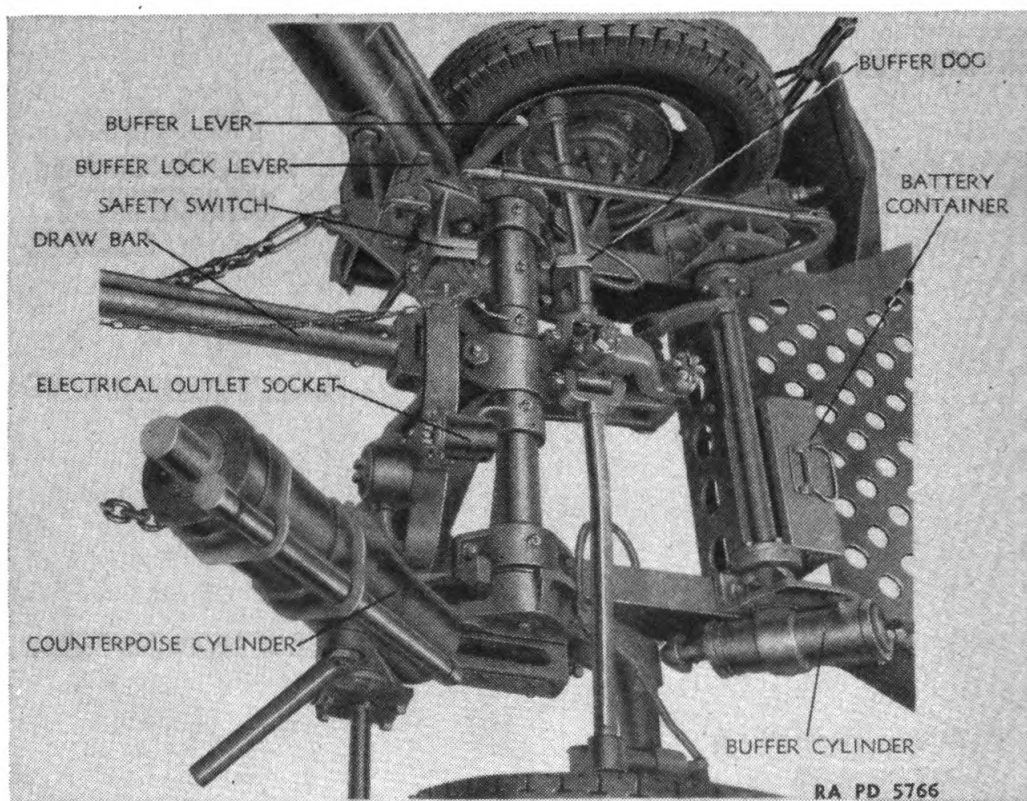

FIGURE 29.—Counterpoise cylinder and buffer mechanism.
**19. Counterpoise cylinders.**—The counterpoise cylinders (fig. 29) are pivoted to the side members of the chassis in front of each of the 4 wheels. The counterpoise rods are pinned in brackets on the rotating axle arms. Together with the buffer assemblies (fig. 29) they provide the spring suspension for road travel. The counterpoise springs also provide the counterbalance for the weight of the carriage, allowing the carriage to be lowered to the ground and lifted therefrom by man power. Long handles on the counterpoise cylinders give added leverage for rotating the axle arms. The ends of the counterpoise rods are so arranged in the axle arms that when forcing the
**20. Buffer mechanism.**—The buffer cylinders (fig. 29) are pivoted to the side members of the chassis behind each of the 4 wheels. The front buffer cylinders are connected by a shaft as well as the rear buffer cylinders. A buffer lever and lock is provided to rotate each set of buffers into or out of position by rotating the shafts to which they are connected. The buffer shafts rotate in bearings on the chassis. Locks are provided for the buffer levers to prevent accidental movement. The front buffer lever is also arranged to lock the drawbar and steering mechanism in the straight forward position when the carriage is lowered. The buffer dog, which is welded to the right tie rod, fits into a socket on the buffer mechanism when the carriage is lowered and the drawbar is in a straight forward position. This prevents the drawbar from being moved while the carriage is emplaced.
**21. Brakes.**—*a. Service brakes.*—Electric brakes are provided on all wheels of the carriage. The two back wheels are supplied with hand brakes which are to be used when maneuvering the carriage by man power and when the carriage is not connected to the prime mover. A jumper cable carries current from the prime mover to the carriage for the operation of brakes and lights. The ends of the cable plug into sockets on the carriage and on the prime mover. When the carriage is detached from the prime mover a safety switch chain and the jumper cable must be separated from the prime mover. The electrical outlet socket (fig. 29) can be used for the loose end of the jumper cable when detached from the prime mover.
*c. Safety switch.*—A safety switch ("breakaway" switch) (fig. 29) is provided to insure that the brakes on the carriage are applied if the
carriage breaks away from the prime mover. The switch is mounted on the front cross member of the carriage and is connected to the rear of the prime mover by a light chain. Current which is supplied to the brakes by the safety switch comes from a 6-volt battery mounted on the carriage (fig. 29). In case of an accidental separation between the carriage and prime mover, the chain attached to the prime mover pulls the switch, and the brakes on the carriage set instantly. After a breakaway, the switch must be placed in the "off" position so as not to exhaust the battery.